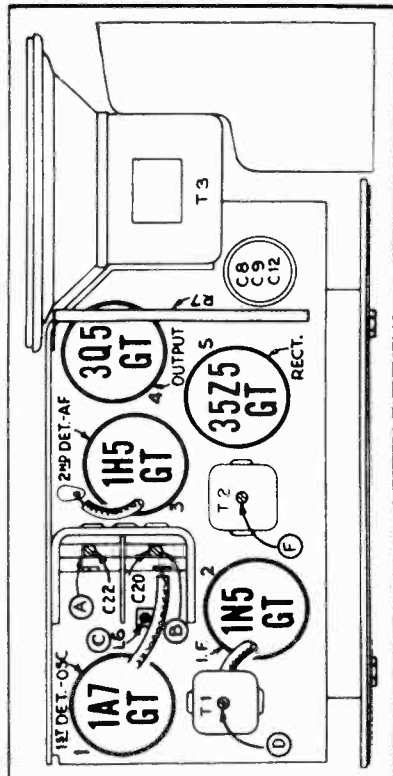

FIG. 3--PARTS LAYOUT--Top View
- (e) Tune the receiver to quiet point at 1600 KC end of dial, set Volume Control full on, adjust the trimmers on the second I-F transformer (illus. F, G, Fig. 3 & 4) for maximum output.